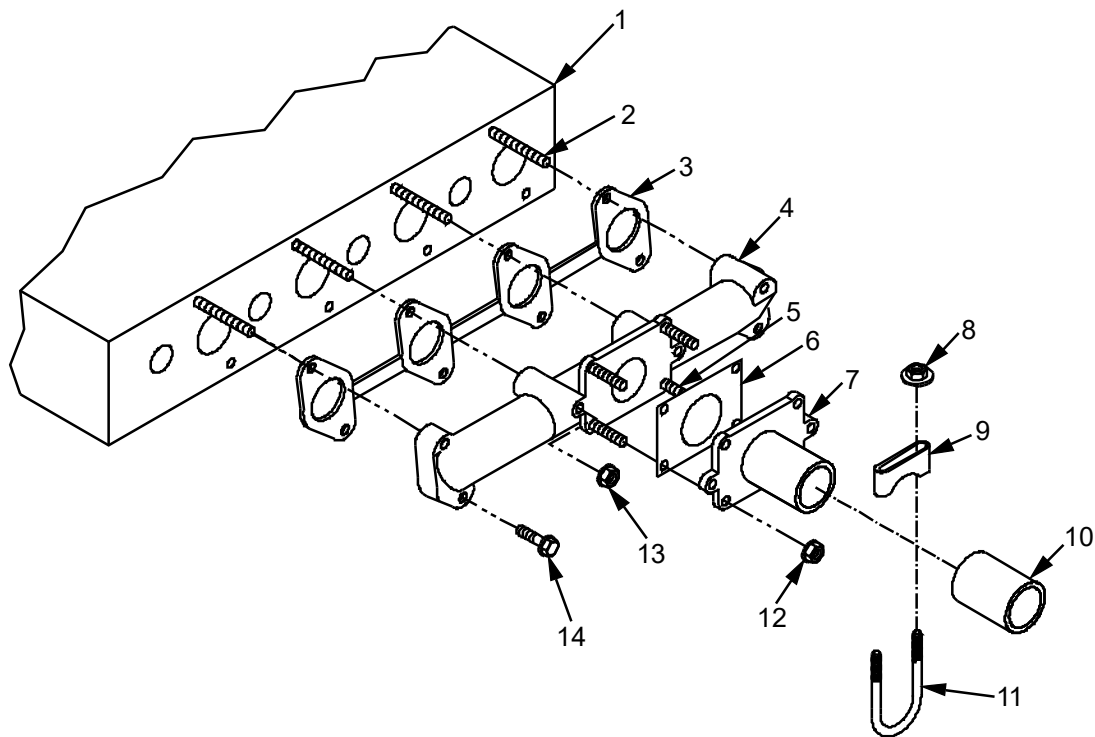

Figure 2. Exhaust Manifold and Gasket Removal/Replacement.
5. Remove U-bolt (Figure 2, Item 11), clamp (Figure 2, Item 9) and two nuts (Figure 2, Item 8) from exhaust pipe (Figure 2, Item 10) and T-slot (Figure 2, Item 7).
6. Remove four mounting nuts (Figure 2, Item 12) to remove T-slot (Figure 2, Item 7) and gasket (Figure 2, Item 6) from manifold (Figure 2, Item 4). Discard gasket.
7. Remove four mounting bolts (Figure 1, Item 14) from manifold (Figure 2, Item 4).
8. Remove four locking nuts (Figure 2, Item 13) from manifold (Figure 1, Item 4).
9. Slide exhaust manifold (Figure 2, Item 4) off of engine (Figure 2, Item 1) and discard old gasket (Figure 2, Item 3).
1. Place new manifold gasket (Figure 2, Item 3) over exhaust mounting studs (Figure 2, Item 2).
2. Slide exhaust manifold (Figure 2, Item 4) into position on mounting studs.
3. Install four locking nuts (Figure 2, Item 13) on the manifold mounting studs.
4. Apply anti-seize compound on the exhaust manifold bolts (Figure 1, Item 14) and install into exhaust manifold (Figure 1, Item 4) and engine (Figure 2, Item 1).
5. Using torque wrench, tighten manifold bolts (Figure 2, Item 14) and locking nuts (Figure 2, Item 13) to 14~21 ft./lb (19~28 n-m/1.9~2.9 kgf-m). (Tighten in a cross pattern, starting from the center and working out).
6. Install new gasket (Figure 2, Item 6) onto manifold studs (Figure 2, Item 5).
7. Install T-Slot (Figure 2, Item 7) onto the manifold (Figure 2, Item 4).
8. Install four mounting nuts (Figure 2, Item 12) and tighten.
9. Install U-bolt (Figure 2, Item 11), clamp (Figure 2, Item 9) and 2 nuts (Figure 2, Item 8) onto exhaust pipe (Figure 2, Item 10) and T-slot (Figure 2, Item 7).